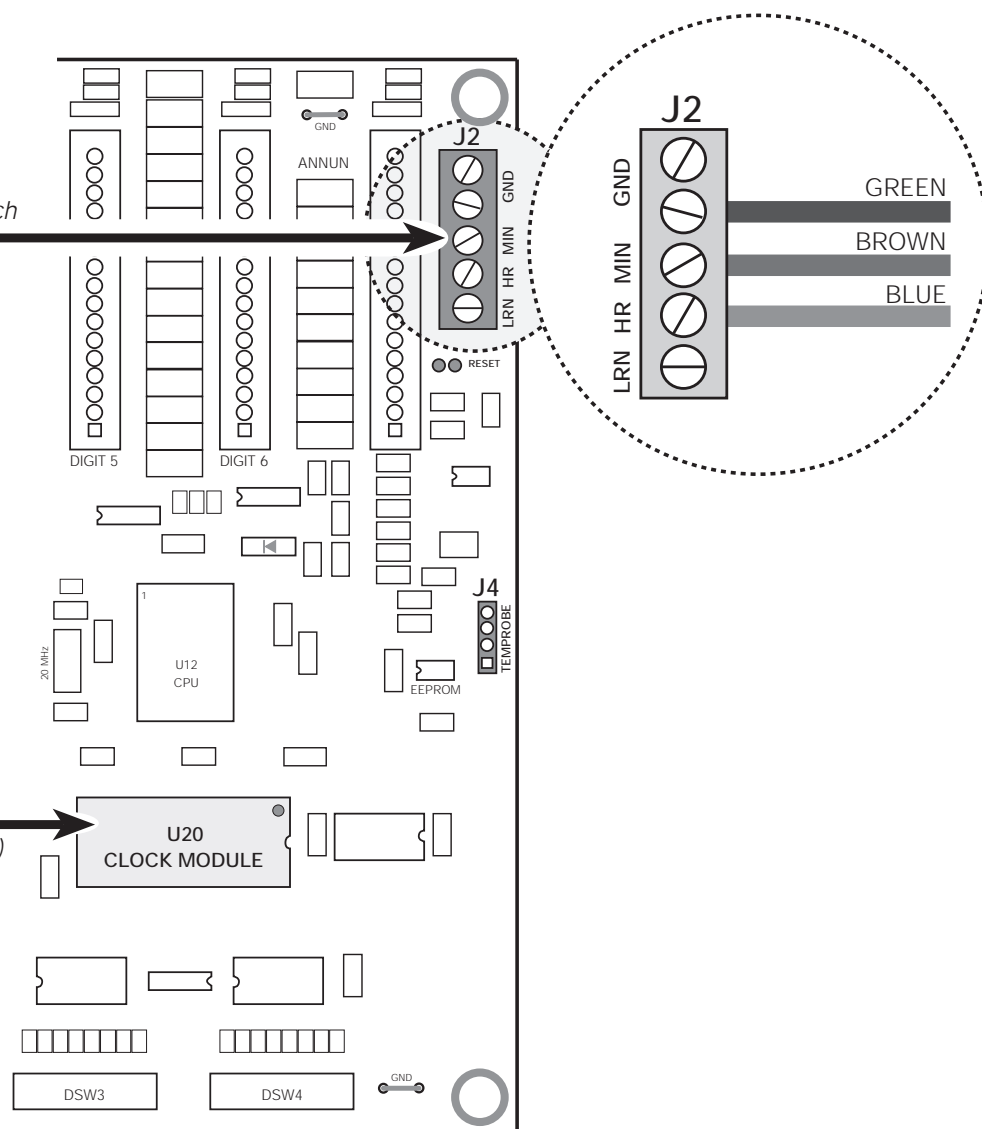

Figure 2. CPU Board Connections and Chip Installation for Time Option (F-Series CPU Board Shown)
9. Connect wires to CPU board at connector J2 as shown in Figure 2.
10. Install the clock chip into socket U20 on the CPU board. Ensure that the chip is oriented with pin 1 as shown in Figure 2.